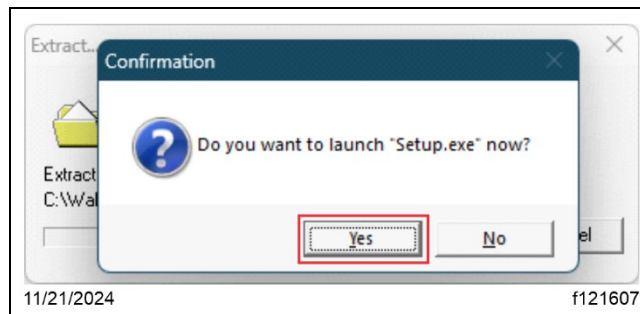

Fig. 32, Launching the Setup.exe File
7.3. Once the extraction is complete, a 'Confirmation' window pops up asking to launch the 'Setup.exe;' select 'Yes.' See Fig. 32.